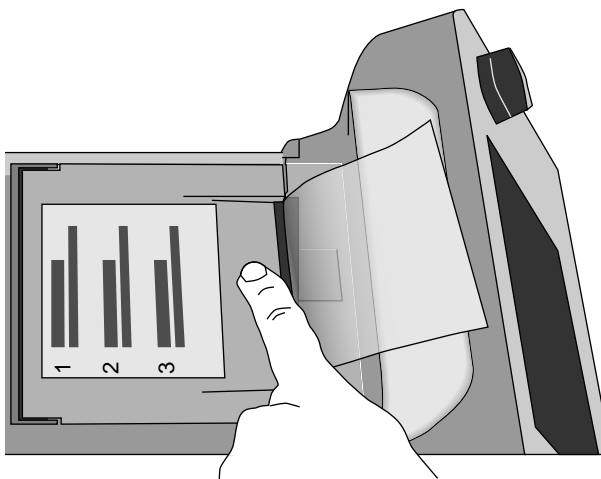

Figure 12-4. Closing the paper compartment door
- Pull a length of paper (approx. 15 cm) from the compartment and close the door (Figure 12-4). The paper compartment door must click into place audibly on both sides.